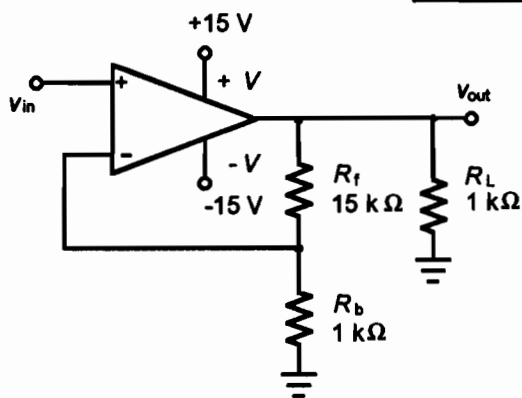

Figure 45.1
1. Construct the circuit in Figure 45.1.